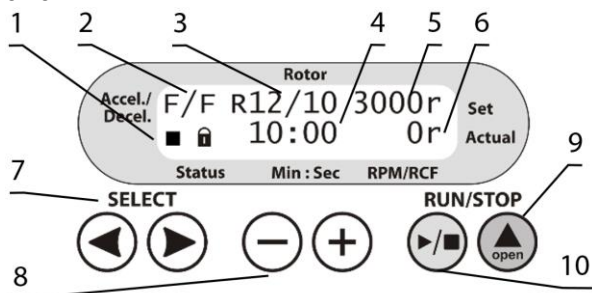

Figure 2. LMC-56 control panel
- Check the power cable for any signs of damage. Connect the power cable to a properly grounded mains socket. Set the power switch on the unit to position **I** (on). Press the **▲ Open** key (fig. 2/9) and lift the lid by hand.
- Acceleration and deceleration modes (fig. 2/2);
- Set rotor speed in RPM or RCF¹ (fig. 2/6);
- Status icons of rotor, ■ stopped or ► running (fig. 2/1, first symbol);
- Status icons of lid, ■ closed or ► open (fig. 2/1, second symbol);
- Set time of centrifugation, in minutes and seconds (fig. 2/4);
- Actual rotor speed, in RPM or RCF (fig. 2/6);
- 5.4 Press the ▲ **Open** key (fig. 2/9) and lift the lid by hand. Check the rotor, buckets for any signs of wear or corrosion, and replace if necessary. Insert **EVEN** number of tubes/microtest plates in rotor one opposite another. The loading in the opposite tubes must be equal.
- 5.5 **Setting parameters.** Use the **SELECT** ◀ and ▶ keys (fig. 2/7) to choose a parameter and the – and + keys (fig. 2/8) to modify it. Selected parameter will be blinking. Program automatically saves any changes made after no keys are pressed for 2 seconds.
- 5.5.1 Acceleration modes (fig. 2/2, first letter). Three modes of acceleration are available, slow (shortened to **S**), normal (**N**) and fast (**F**).
- 5.5.2 Deceleration modes (fig. 2/2, second letter). Four modes of deceleration are available, free brake (**0**), slow (**S**), normal (**N**) and fast (**F**).
- 5.5.3 Installed rotor (fig. 2/3). Combinations of rotors, adapters and their maximum allowed speed is listed below in the table below:
- 5.5.4 Rotation parameters (fig. 2/5). Rotor speed can be set in RPM and in RCF, denoted after numeric value by **r** and **g**, accordingly. Values convert after changing units. RCF depends on the installed rotor, as shown in Table 1.
- 5.5.5 Time setting (fig. 2/4). Select duration of centrifugation in minutes, step 1 minute.
- 5.6 Close the lid carefully and smoothly until a clicking sound is heard. Icon ■ appears on the display (fig. 2/1).
- 5.7 Press the **RUN/STOP** ▶/■ key (fig. 2/10) to start centrifugation. Icon ▶ (fig. 2/1) and actual speed (fig. 2/6) are shown in the lower line of the display. The timer (fig. 2/4) starts the countdown after set speed is achieved.